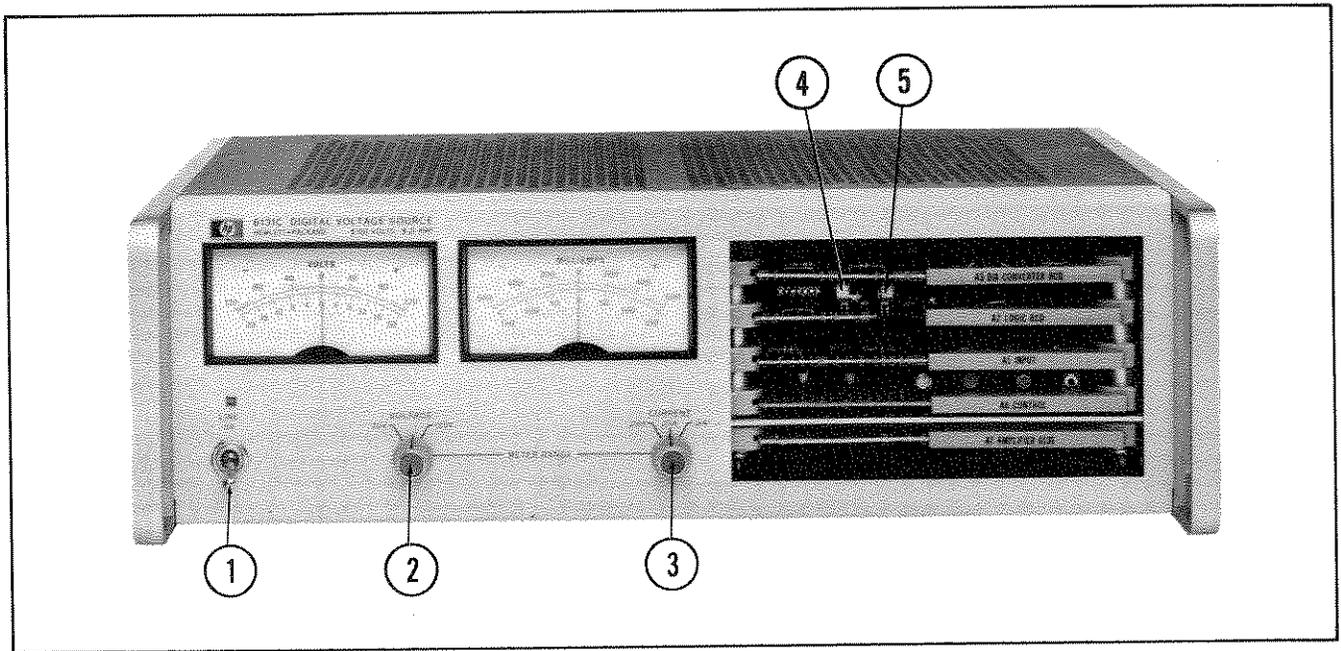

Figure 3-2. Operating Controls and Indicators
3-4 To turn on the unit, set the LINE switch (item ① in Figure 3-2) to ON. The pilot light directly above the LINE switch should light. Fuse 1 (2A at 115Vac or 1A at 230Vac) protects the main power supply.
3-18 With the STORAGE switch (4) (Figure 3-2) in the STORE position, the voltage, sign, range, and current latch program data are stored when the gate is received from the computer. In the DISABLE position, indicator DS1 (5) lights and the data are processed as soon as they are received.